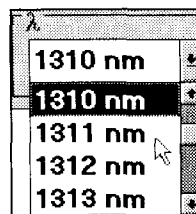

Figure 5-20. Setting Wavelength
2. From the IQ-1200 window, choose the  button to open the λ list box as shown in Figure 5-20.